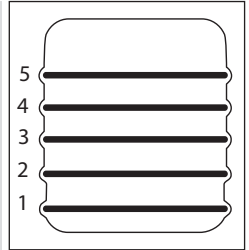

**Fig. 3.1**
- The telescopic racks with runners can be utilized on levels 2, 3, 4 and 5. It is not possible to utilize the rack on level 1 (**Fig. 3.1**).